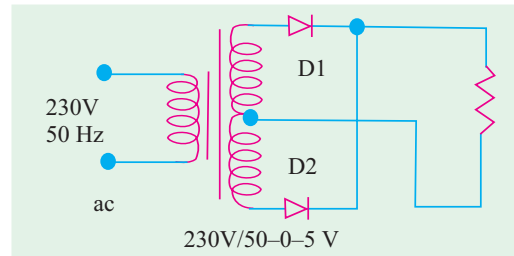

Fig. 55.55
15. The circuit in Fig. 55.55 shows a full-wave rectifier. The input voltage is (rms) single-phase ac. The peak reverse voltage across the diodes D1 and D2 .